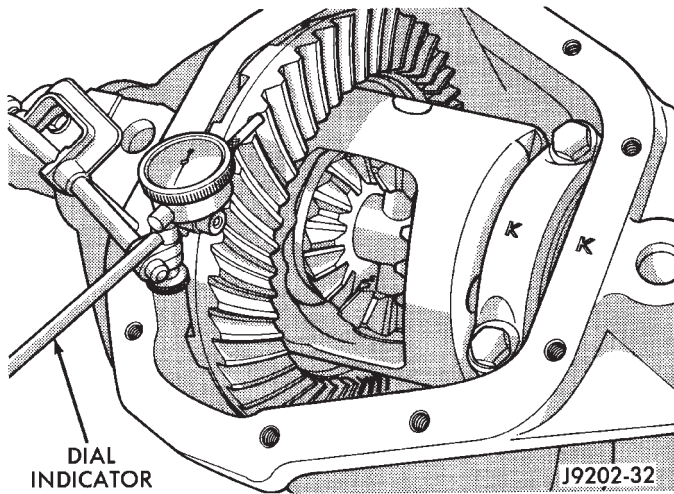
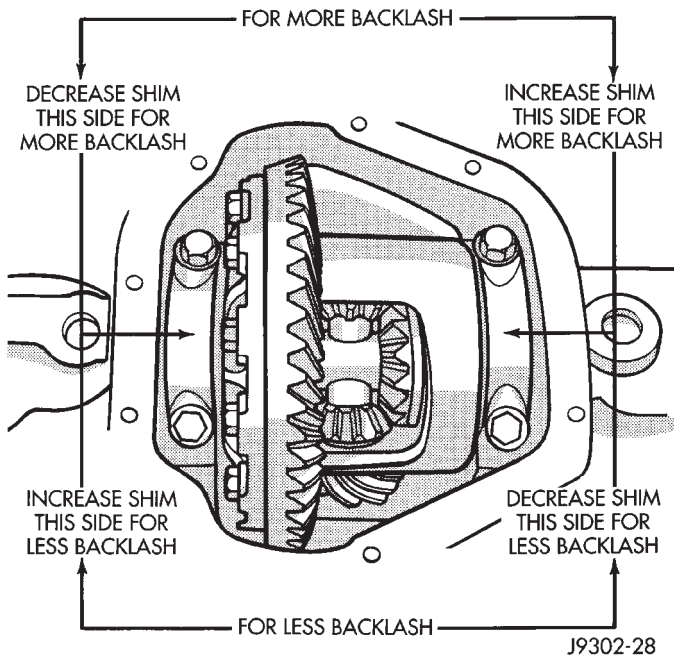

Fig. 70 Ring Gear Backlash Measurement
Fig. 71 Backlash Shim Adjustment
(25) Subtract 0.002 in. (0.05 mm) from the dial indicator reading to compensate for backlash between ring and pinion gears. This total is the thickness shim required to achieve proper backlash.
(26) Subtract the backlash shim thickness from the total preload shim thickness. The remainder is the shim thickness required on the pinion side of the axle housing.
(27) Rotate dial indicator out of the way on guide stud.
(28) Remove differential case and dummy bearings from axle housing.
(29) Install side bearing shims on differential case hubs.
(30) Install side bearings and cups on differential case.
(31) Install spreader W-129-B, utilizing some items from Adapter Set 6987, on axle housing and spread axle opening enough to receive differential case.
(32) Install differential case in axle housing.
(33) Remove spreader from axle housing.
(34) Rotate the differential case several times to seat the side bearings.
(35) Position the indicator plunger against a ring gear tooth (Fig. 70).
(36) Push and hold ring gear upward while not allowing the pinion gear to rotate.
(37) Zero dial indicator face to pointer.
(38) Push and hold ring gear downward while not allowing the pinion gear to rotate. Dial indicator reading should be between 0.12 mm (0.005 in.) and 0.20 mm (0.008 in.). If backlash is not within specifications transfer the necessary amount of shim thickness from one side of the axle housing to the other (Fig. 71).